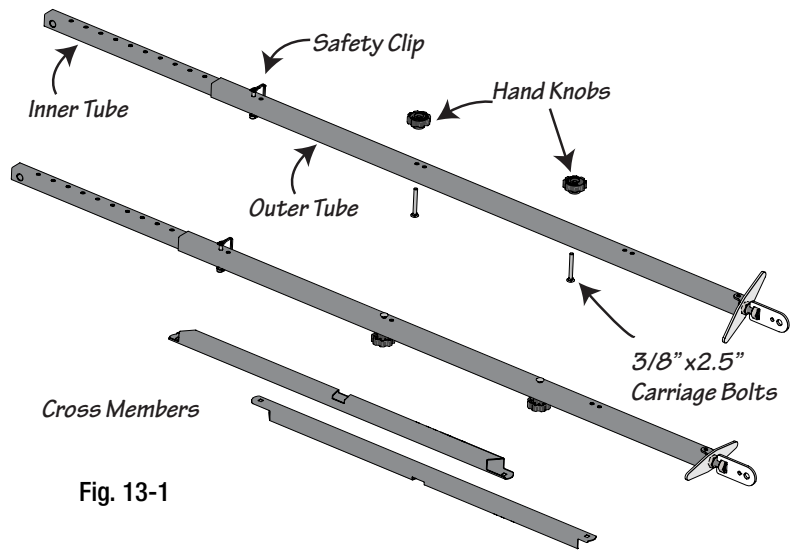

Fig. 13-1
- Slide out the top inner tube from both stabilizer post, see description as shown in Fig 13-1.